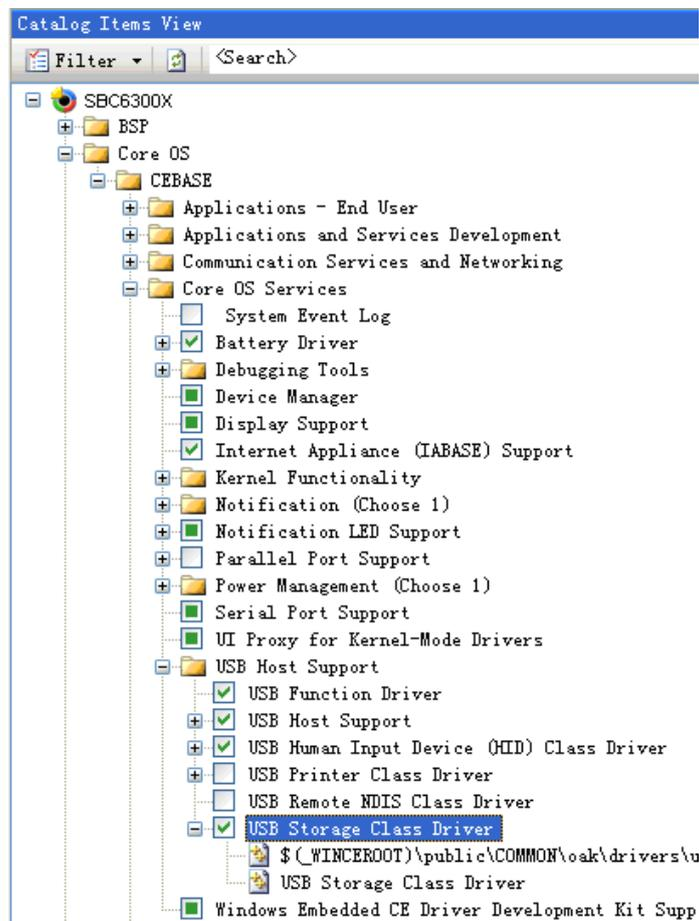

Figure 6.15
- As shown in Figure 6.15, tick the driver of the module you need SBC6300X main board, in View->Other window->Catalog Items View->SBC6300X->Third Party->SBC6300X:ARMV4I in VS2005. (For details of each driver module please refer to Section 6.5) .